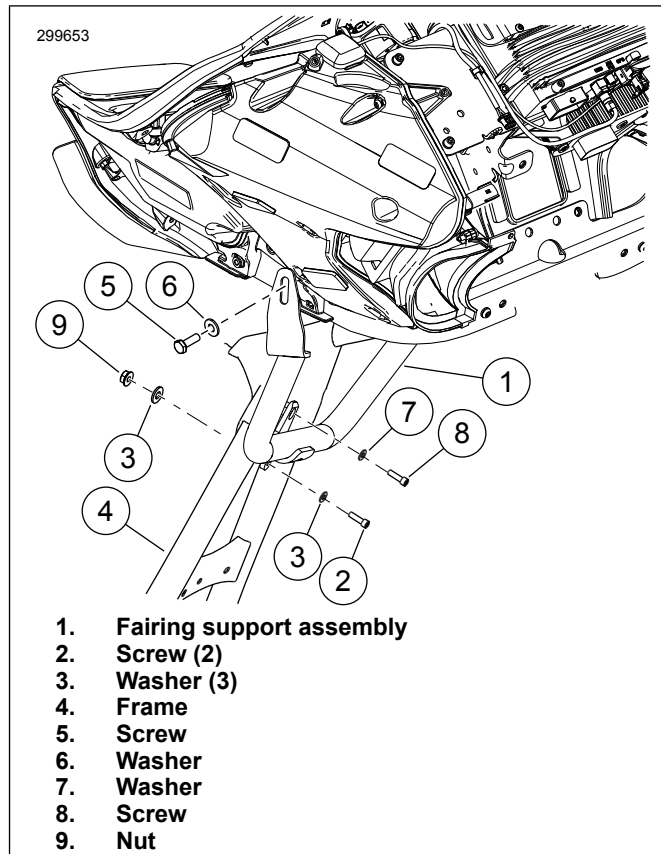

Figure 3. Install Fairing Support
- See Figure 3. Hold the fairing support assembly in position, and loosely fasten the mid fairing support mount with the new hex socket screws (2, 8), flat washers (3, 7) and nut (9) from the kit.
- Install the side brackets to the motorcycle with the two screws (5) and washers (6) removed earlier.